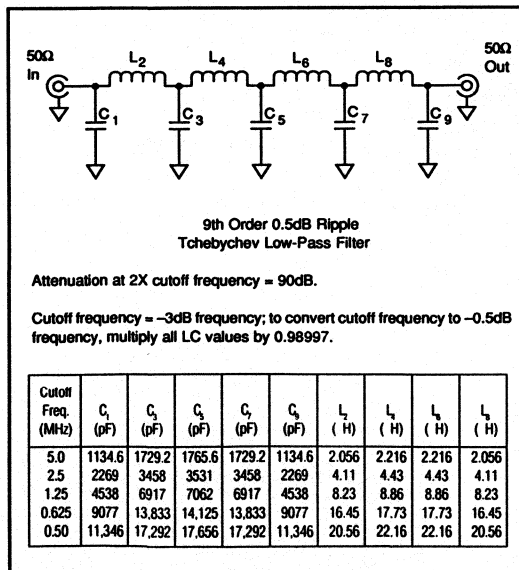

FIGURE 16. Ninth-Order Harmonic Filter.
3. Low-pass filtering (or bandpass filtering) of test signal generators is absolutely necessary for THD and IMD tests. An easily built LC low-pass filter (Figure 16) will eliminate harmonics from the test signal generator.